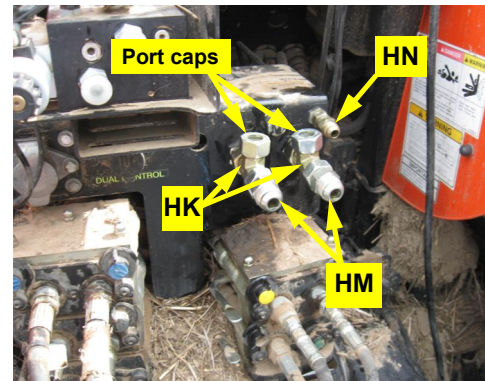

Figure 3b: Installed pressure and tank run-tees and fittings and load sense fitting. Reinstalled port caps.
- b. Remove the caps from the pressure, tank, and load sense ports and install run-tees **HK** in the pressure and tank ports. Install the removed caps on the stems of the run-tees and adapter fittings **HM** on the open 'T' ends of the run-tees. Install the adapter fitting **HN** to the load sense port (Figure 3b).